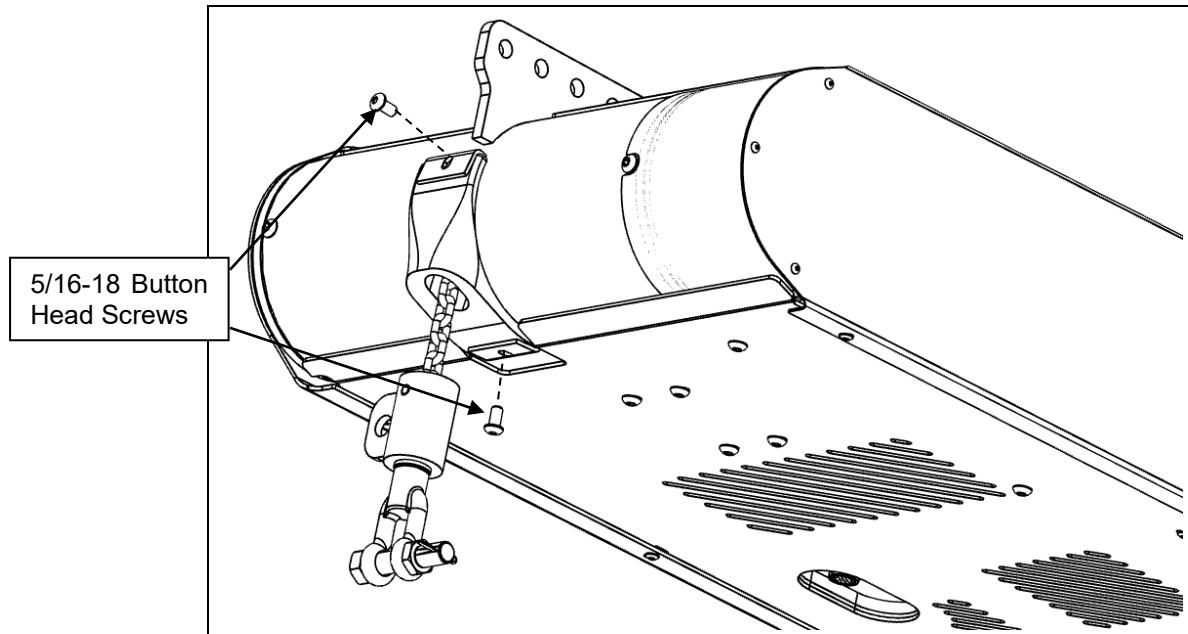

Figure 4-7
Step 2. Using Knight Servo Studio Motion -> Payout Mode -> GO TO CHAIN REPLACEMENT POSITION. (See Figure 4-7 & 4-8)
- Step 15. Reinstall cable guide and cable guide clamp(s). (See Figures 4-7 & 4-8)
- Step 11. Reinstall cable guide and cable guide clamp(s). (See Figures 4-7 & 4-8)